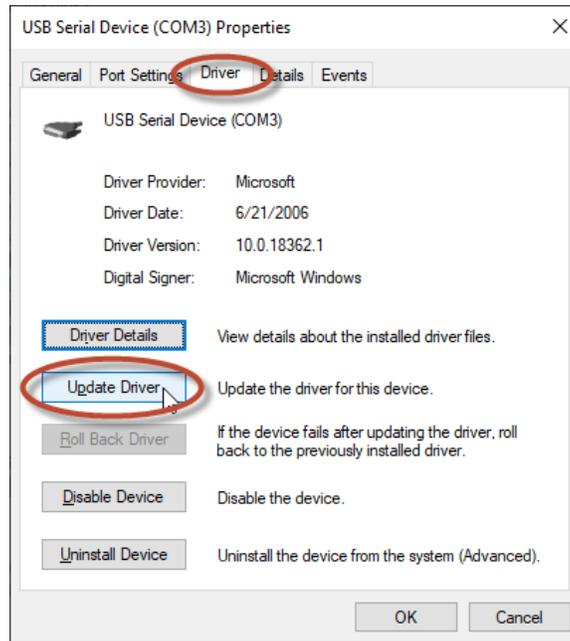

Figure 62-5. USB Serial Device Properties
- Step 4. In the USB Serial Device (COM#) Properties window, select the Driver tab and click Update Driver. See Figure 62-5.